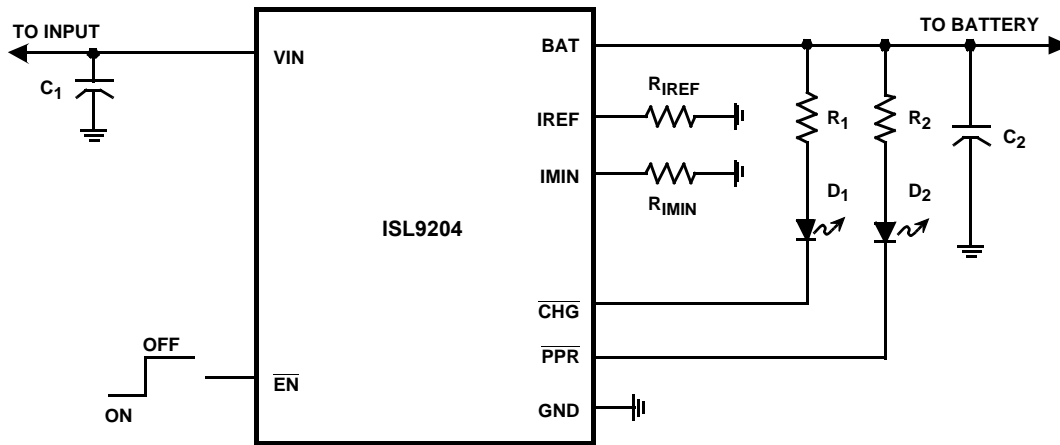
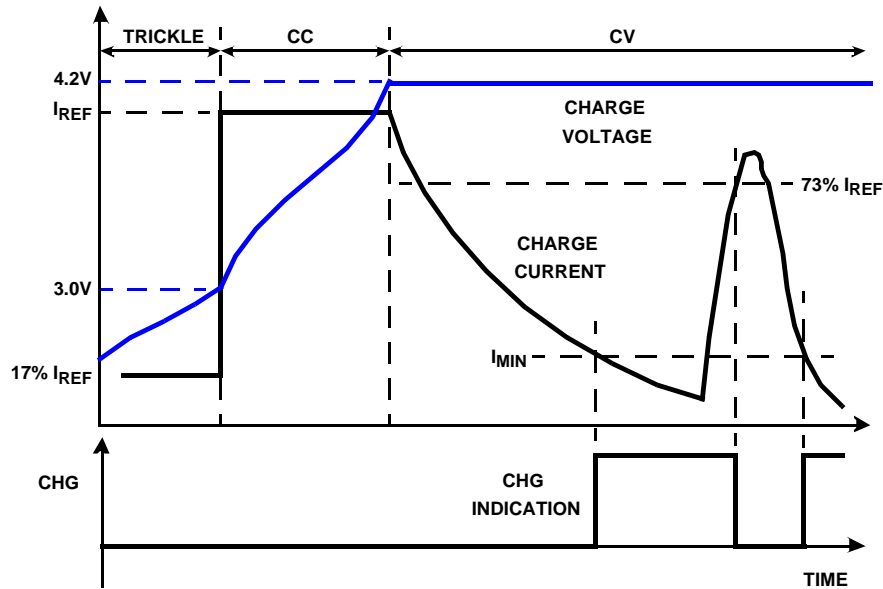

FIGURE 9. TYPICAL APPLICATION CIRCUIT INTERFACING TO INDICATION LEADS
FIGURE 12. TYPICAL CHARGE PROFILE
TABLE 1. COMPONENT DESCRIPTION FOR FIGURE 9
The ISL9204 charges a Li-ion battery with a constant current (CC) or a constant voltage (CV). The constant current  $I_{REF}$  is set with the external resistor  $R_{IREF}$  (see Figure 9) and the constant voltage is fixed at 4.2V. If the battery voltage is below a typical 2.8V trickle-charge threshold, the ISL9204 charges the battery with a trickle current until the battery voltage rises above the trickle charge threshold. When the battery voltage reaches 4.2V, the charger enters a CV mode and regulates the battery voltage at 4.2V to fully charge the battery without the risk of over charge. Upon reaching an end-of-charge (EOC) current, the charger indicates the charge completion with the CHG pin, but the charger continues to output the 4.2V voltage. Figure 12 shows the typical charge profile and the EOC/reset event.
The EOC current level  $I_{MIN}$  is programmable with the external resistor  $R_{IMIN}$  (see Figure 9). The CHG signal turns to LOW when the trickle charge starts and rises to HIGH at the EOC. After the EOC is reached, the charge current has to rise to typically 73%  $I_{REF}$  for the CHG signal to turn on again, as shown in Figure 12. The current surge after EOC can be caused by a load connected to the battery.
The PPR pin can be used to drive an LED (see Figure 9) or to interface with a microprocessor.